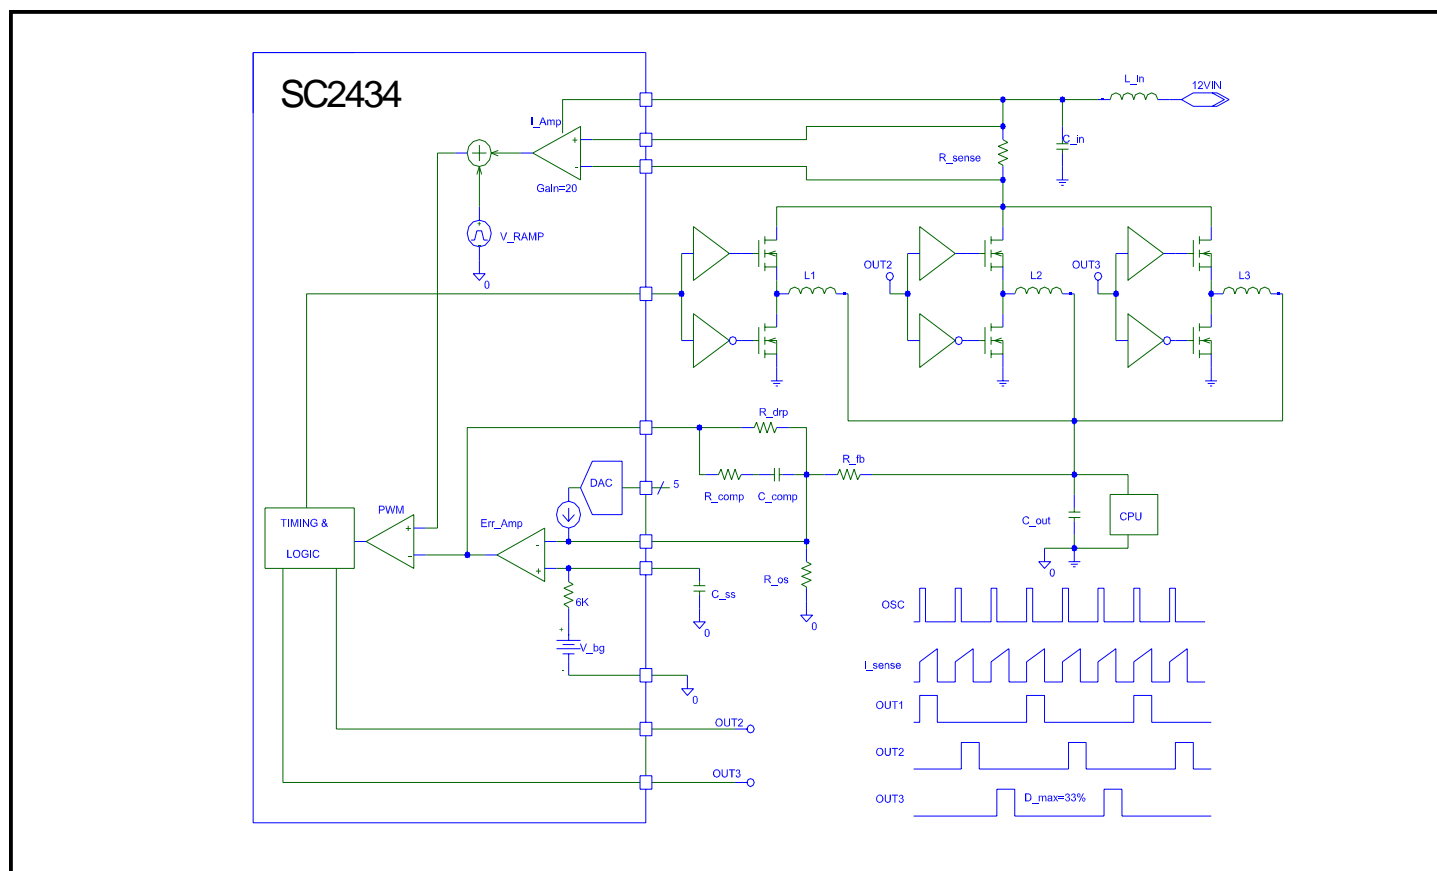

Fig.1 - The simplified voltage regulator based on SC2434.
The simplified voltage regulator (VR) based on SC2434 is depicted in Fig. 1. The key timing chart is also shown in the same picture. The 12V input power passes through the input filter establishing the input power rail. The current sensing resistor located at positive input rail monitors the top FET currents of all the phases. An internal differential amplifier amplifies the voltage across the current sensing resistor. The output of the current amplifier and an internally generated saw tooth ramp signal are added together to be the PWM carrier signal. This signal meets the output of the error amplifier at the pulse width modulator (PWM). The output of the PWM is then divided into three phases alternately to be the inputs of the synchronous drivers.
The VID circuitry reads the 5 bit digital command and converts it into a current flowing into the inverting input pin of the error amplifier. The output current of the DAC produces a voltage offset on the feedback resistor,  $R_{FB}$  (see Fig. 1), which changes the set point of the converter output voltage for different VID combinations.
Please refer to Fig. 1 and the application schematics in this data sheet for the discussion. The resistor from pin 10 to ground,  $R_{OSC}$ , programs the switching frequency. The resistor from pin 11 to ground,  $R_{DAC}$ , sets the DAC current step size. The resistors,  $R_{FB}$ ,  $R_{OS}$ , and  $R_{DRP}$  set the DAC step size, the output voltage set point, and the droop, respectively.
Kirchoff's current law can be applied to the error amplifier's inverting input (see Fig. 1) to calculate  $R_{OS}$ , the DC level setting resistor. For given output voltage set point and VID setting, the resistance can be calculated by: